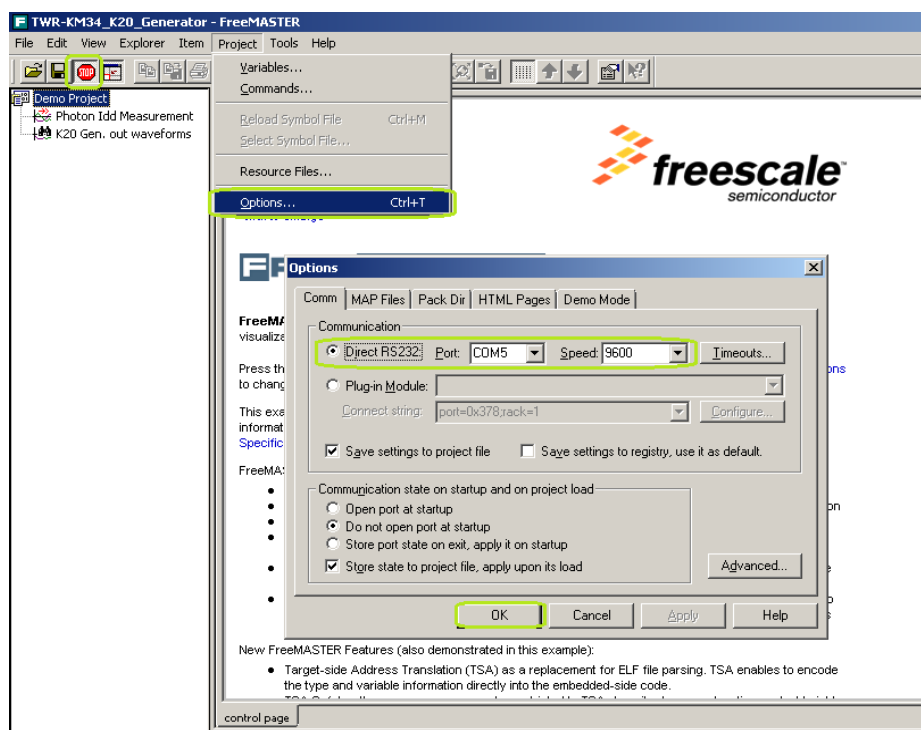

Figure 7. FreeMaster communication setup
Run the FreeMaster GUI application as soon as you see the new Virtual Com Port device available and driver properly installed in the device manager. See Figure 7.
2. Click the Project tab and the Options window appears. In the Options window, select RS232, 9600 baud, and appropriate COMx from the listbox, and click OK. See Figure 7. If the appropriate COM port is not available, disconnect and connect the USB cable again.